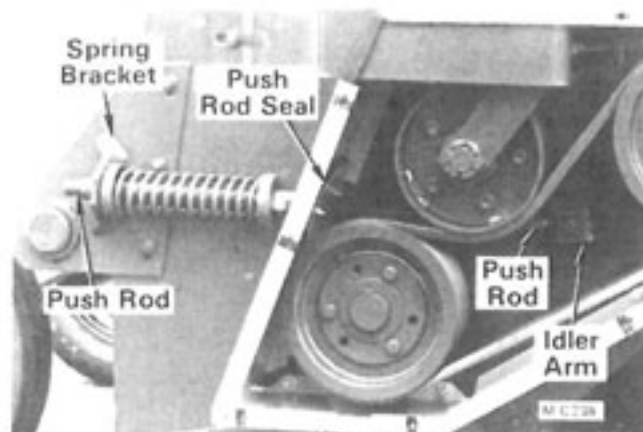

Figure 28
4. Remove the idler push rod seal, see Figure 28. Disconnect the idler push rod at the idler arm.
9. Install the new drive belts. Install the idler push rod and spring assembly into the idler spring bracket, see Figure 28.